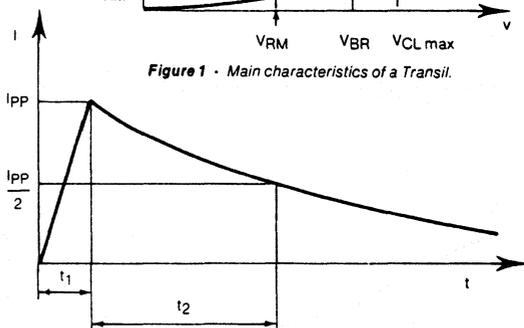

Figure 2 - Standard exponential pulse. This type of pulse corresponds to most of the standards used for the protection of electronic equipment.
**3). THE CLAMPING VOLTAGE  $V_{CL}$**  as specified in the data-sheets in the maximum value for the «standard» pulse with a peak value of  $I_{PP}$ , specified for any type of TRANSIL. (Fig 2).
The first protection devices, designed to meet electrotechnical standards, often had an iso-energetic behaviour, and they were mostly used for short over voltages (of the 1/50  $\mu s$  wave type) encountered on high voltage lines. The research carried out by the CNET (French Telecommunications Agency), confirmed by research abroad, tends to show that low-power electronic equipment is subjected to over voltages of a much longer duration, better represented by 10/100  $\mu s$  exponential wave is Fig 2.